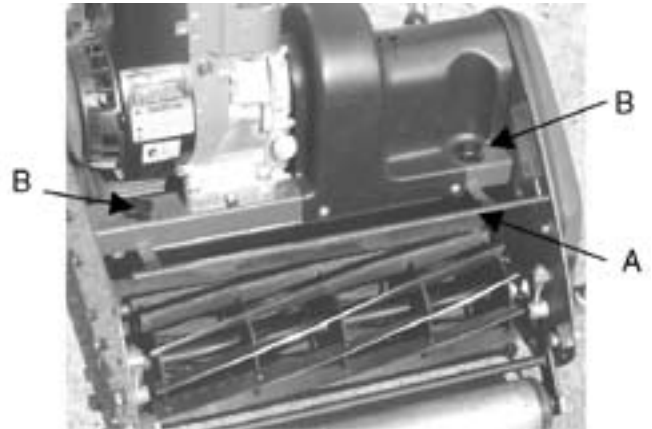

Figure 11. Grass deflector
1. Remove the four retaining screws and washers securing the clutch cover to the chassis and lift off the cover. Exposing the drive shaft, clutch and drive adjuster. Figure 11
1. Loosen the thumb screws (B) each side of the machine Figure 11.
3. Re-tighten the thumb screws (B). Figure 11.
2. Remove Grass deflector by loosening the two thumb screws (B) Figure 11.